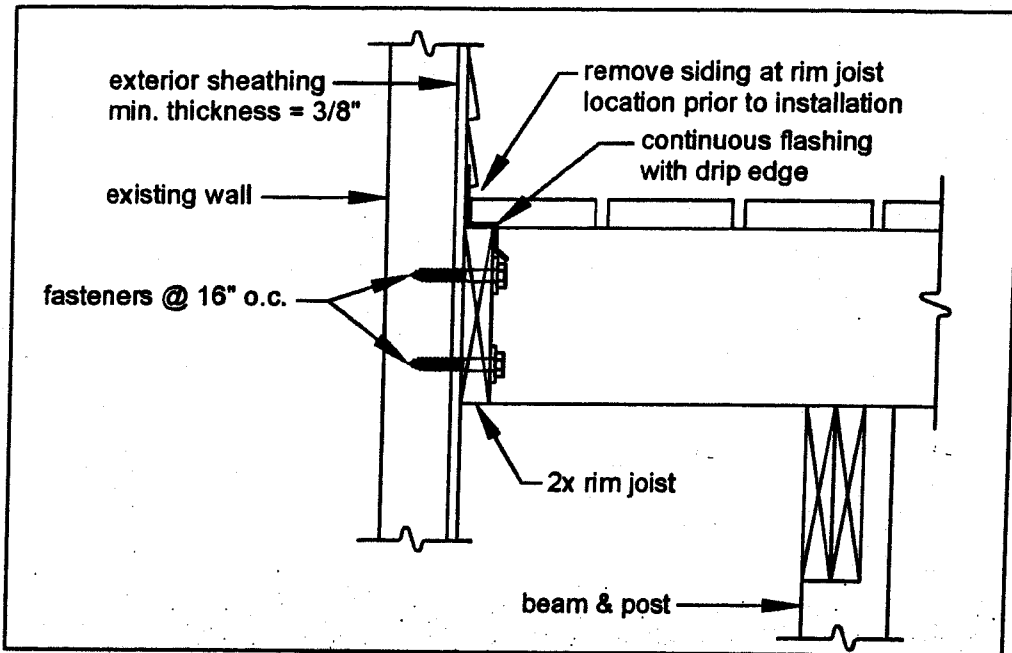

FIGURE 15: ATTACHMENT TO HOUSE LATERAL SUPPORT
2. **Attachment To House:** lateral support is provided by the attachment of the deck rim joist to the existing house as shown in FIGURE 15. The existing exterior wall must have sheathing consisting of structural wood panels with a minimum thickness of $\frac{3}{8}$ " , and the fasteners shall attach to an existing band board or wall stud. The deck rim joist may also attach to a masonry or concrete wall, but not to a brick veneer. YOU MUST VERIFY THIS CONDITION IN THE FIELD PRIOR TO UTILIZING THIS METHOD. Fasteners shall be 16" on center and must penetrate existing wall studs. See also the provisions noted on sheet 6. Flashing over the rim joist is required and must be installed in accordance with the flashing provisions noted on sheet 4. For rim joist size and requirements, see sheet 10.